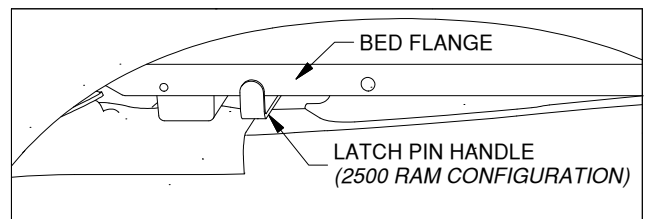

Figure C3: View looking into driver side wheel well.
- 4a. 2500 RAM handle installation.** Once the handle is past the bed flange, as shown in Figure C3, move to the outside of the truck. The handle will need to be pulled under the plastic fender liner. Pull up on the bottom edge of the liner until it is possible to pull the handle out past the fender liner.